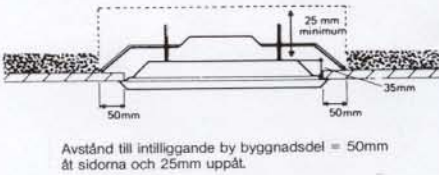
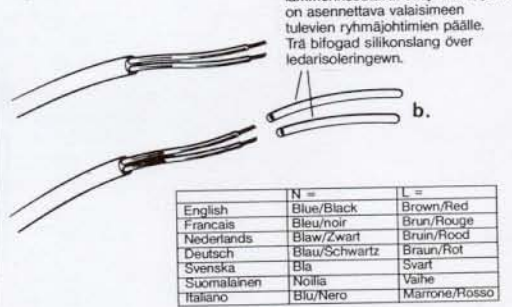

Fig.9a
Fig.9b
13. Slide the two pieces of silicon sleeving (Fig 1 part b) over the supply cable (Fig 9a). If a splash proof cable entry is required use grommet supplied (Fig 1 part a, Fig 9b).